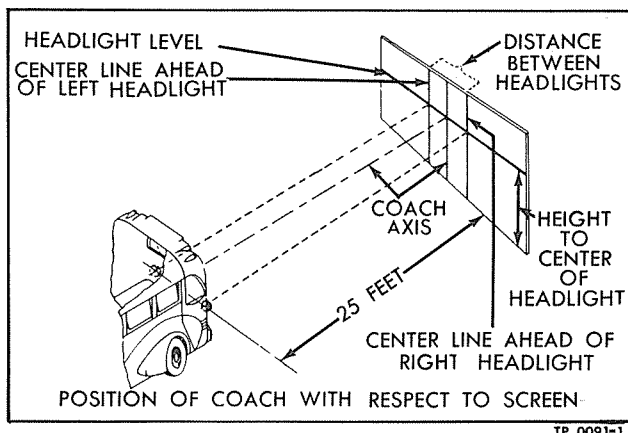

Figure 2—Headlight Aiming Chart
1. Position vehicle on level floor with headlights 25 feet from a vertical wall or door as shown in figure 2. Vehicle center line must be perpendicular to vertical surface.
2. Draw a horizontal line on vertical surface at height of light center as shown in figure 2. Locate a point on this horizontal line at which projected center line of chassis intersects. Measure distance between light centers and divide the distance equally on either side of center mark. Then draw a vertical line directly ahead of each light center as shown.